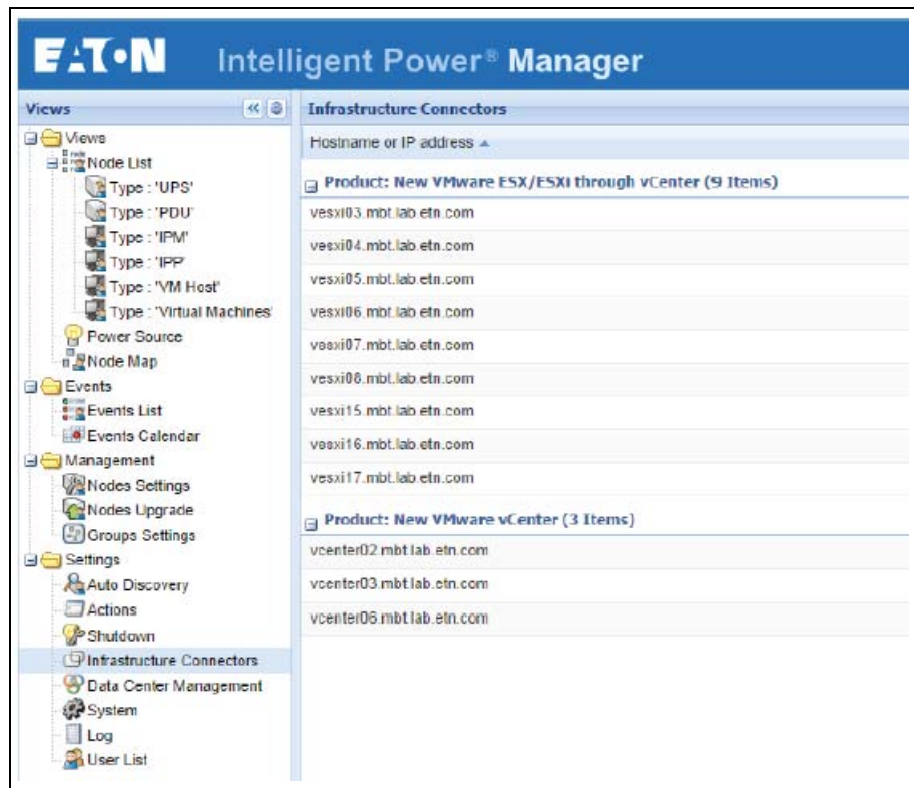

Figure 263. Infrastructure Connectors
4. Select **Settings > Infrastructure Connectors** (see Figure 263).